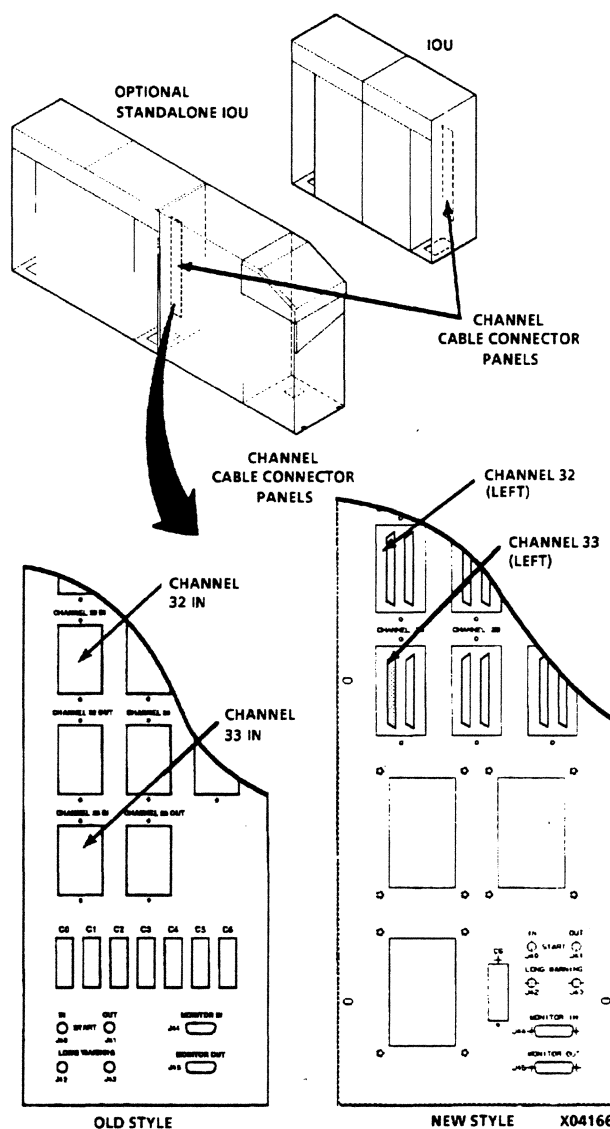

Figure 2-40. Jumper Cable Installation
1. Install jumper cable (figure 2-40) from J08 (old style CHANNEL 32 IN, new style CHANNEL 32 left side of connector) to J02 (old style CHANNEL 33 IN, new style CHANNEL 33 left side of connector) in primary AT511 IOU and in secondary IOU, if present.